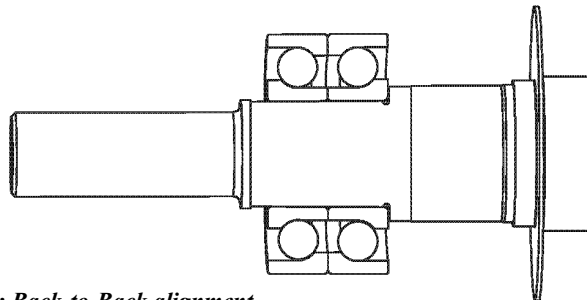

Figure 10-2: Back-to-Back alignment
9. Heat thrust bearing(s) (320B) to 212°F (235°F maximum) and slide the bearing(s) squarely against the shoulder, ensuring back-to-back placement, Figure 10-2. Reference SP-ASY-002 for back-to-back bearing alignment.